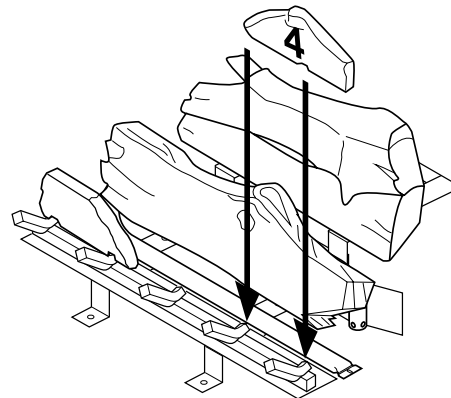

Figure 54 - Installing Log No. 4
5. Place log #4 (right piece) onto the front right part of the grate making sure the notches fit over the prong of the grate (see Figure 54).